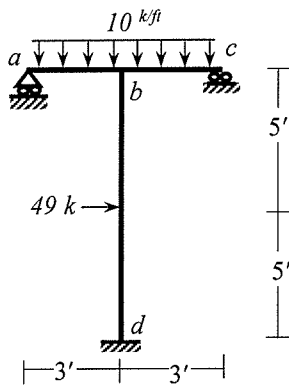

Fig.8
7. Use the Energy Method to calculate the plastic moment (i) needed to prevent beam mechanism of ab and bc , (ii) needed to prevent the sidesway mechanism in the frame $abcd$ loaded as shown in **Fig.8**.